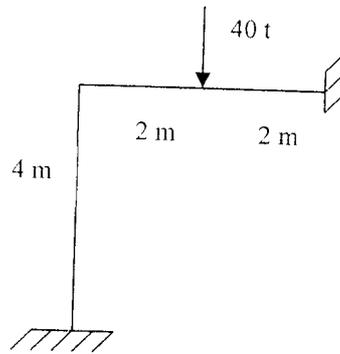

Fig. 3
- b) Analyze the frame shown in fig. 3 by the stiffness method.